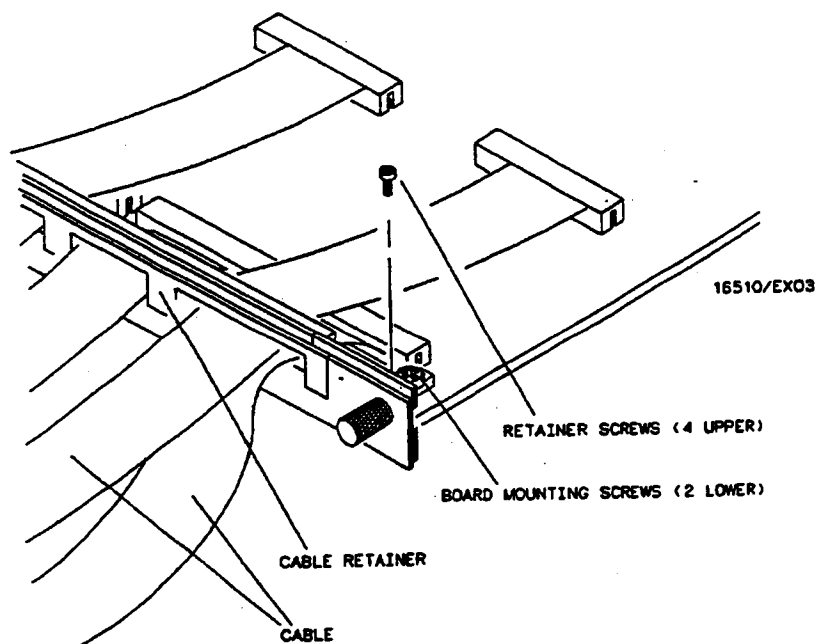

Figure 6-16. Retainer And Screws
- f. Using a No. 10 torx ® driver, remove four screws that hold cable retainer onto card. See figure 6-16.